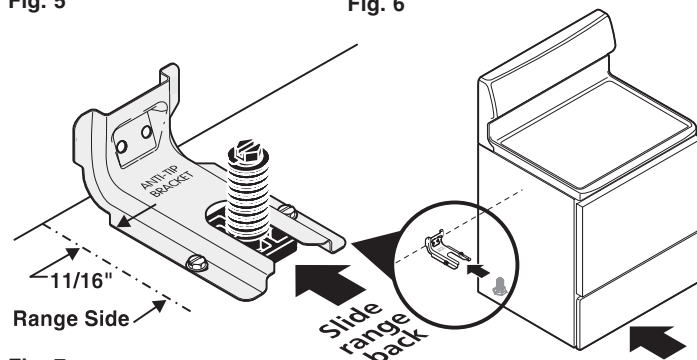

Fig. 7
**1c. Level and Position Range** - Level range by adjusting the (4) leveling legs with a wrench. NOTE: A minimum clearance of 1/8" is required between the bottom of the range and the leveling leg to allow room for the bracket. Use a spirit level to check your adjustments. Slide range back into position (See Fig. 7). Visually check that rear leveling leg is inserted into and fully secured by the Anti-Tip Bracket by removing lower panel or storage drawer. For models with a Warmer Drawer or broiler compartment, grasp the top rear edge of the range and carefully attempt to tilt it forward.